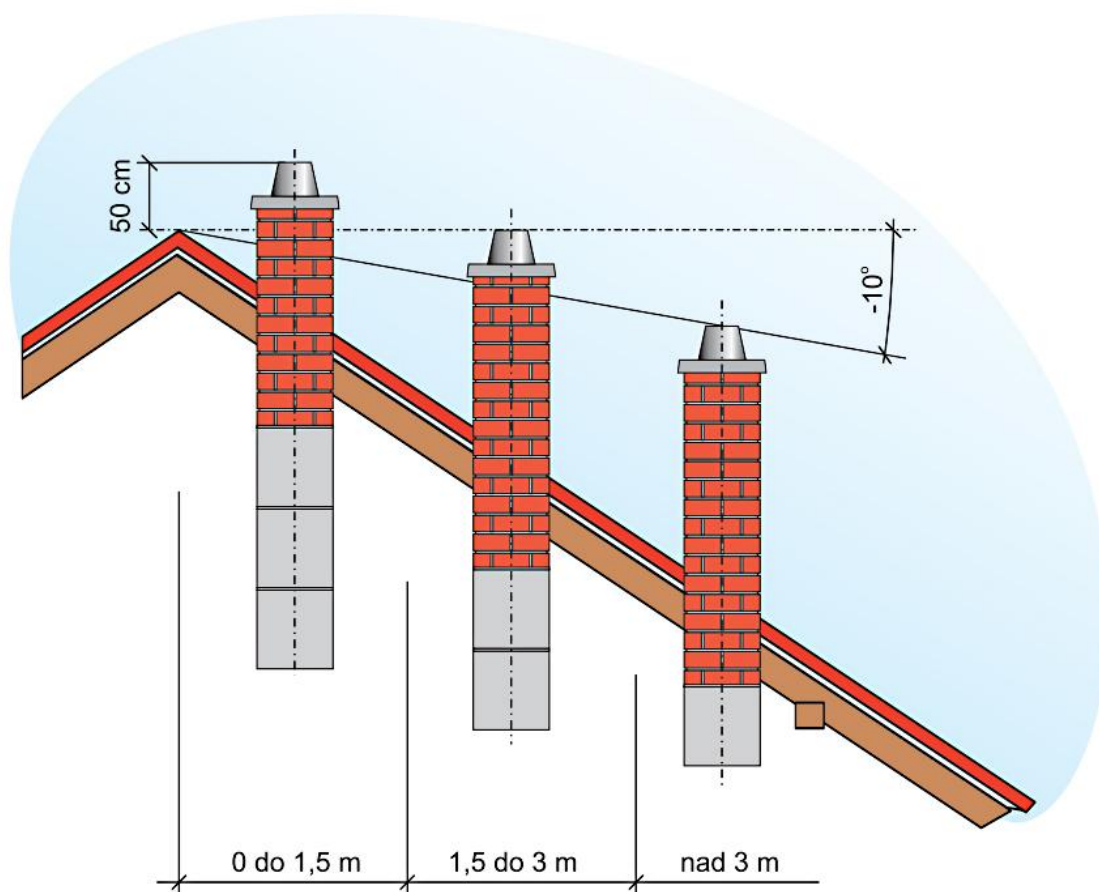

Figure 11. Preview - recommended construction of the chimney.
- Chimney should come out above the roof according to the recommendations of the showed in image. (Figure 11)